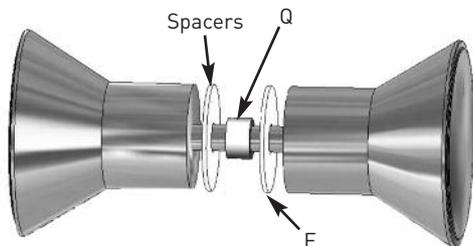

Figure a16
16. Fit the Handles (F) ensuring no aluminium touches the glass of both Doors (C). This is achieved using the spacers (F & Q) (**Figure a16**). The spacers should be placed between the aluminium and the glass of both doors on assembly. Turn the Handles in opposite direction to each other to tighten.